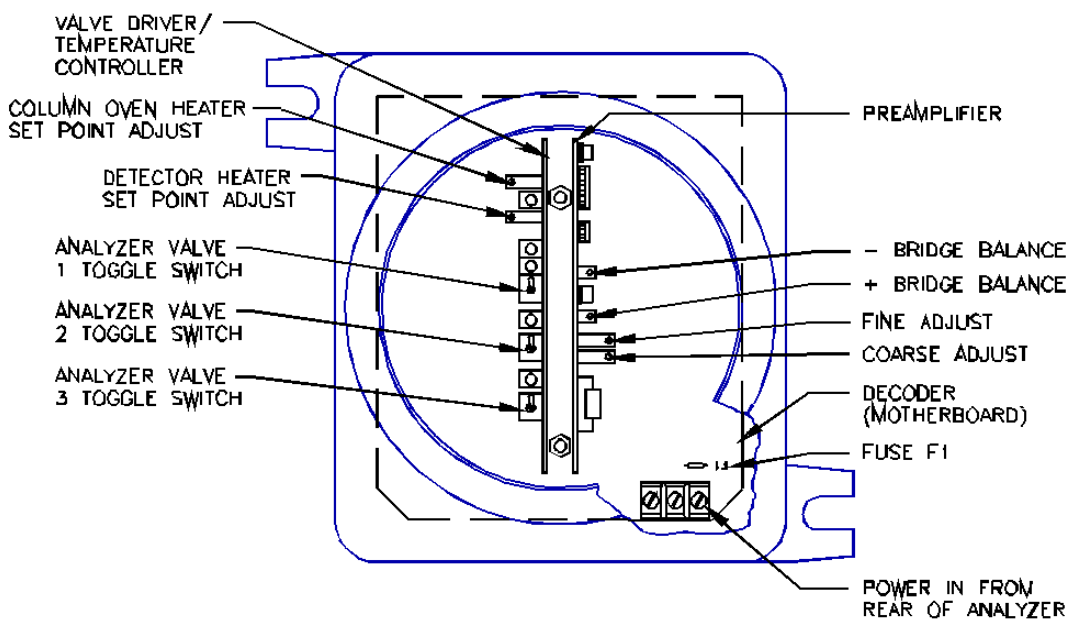

Figure 5-1. Upper Explosion-Proof Housing Electrical Components
The electrical/electronic units of the Analyzer, except for the detector and heater elements, are located in the upper and lower explosion-proof housings of the Analyzer and are fully accessible from the front of the unit. Printed circuit assemblies are contained inside an explosion-proof housing, accessible by removing a threaded cover plate from the housing front. See Figure 5-1.
7. Reinstall the two printed circuit boards, such that the component sides of the boards face outward, left and right (see Figure 5-1). The temperature controller/valve drive board is in the left slot and the preamp is in the right slot.